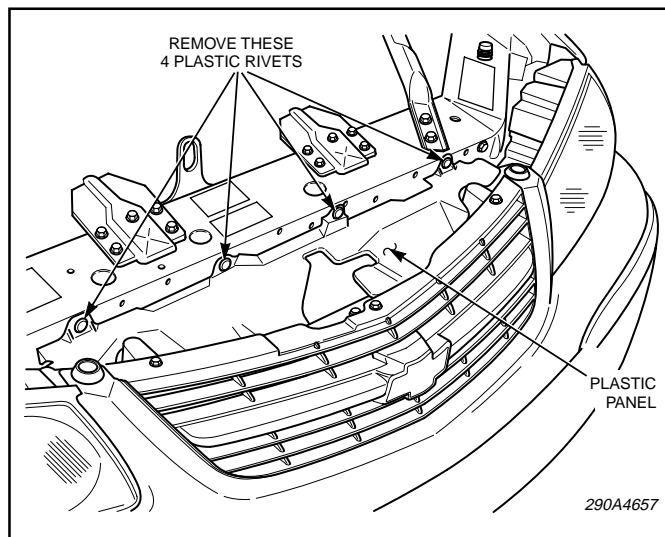

Figure 1.
1. Raise the vehicle hood. See figure 1. Locate the plastic panel between the radiator crossbar and the grill fascia.
2. Remove and retain the four plastic rivets. See figure 1. Remove plastic panel.
3. See figure 1. Locate the driver-side motor mount bracket.